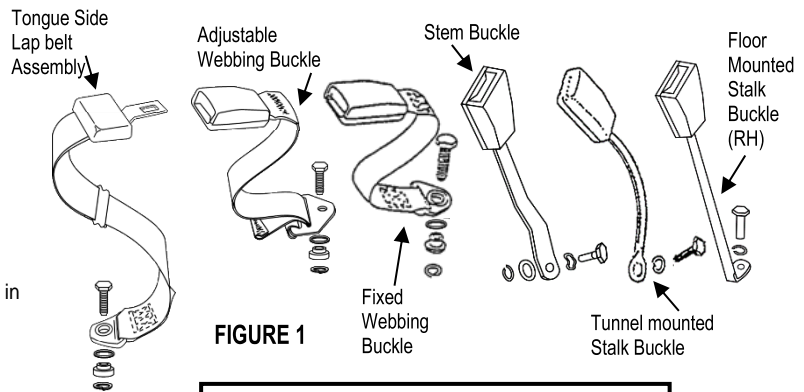

FIGURE 1
1. Your lap belt assembly is as shown in figure 1.
2. Fit tongue side to vehicle structure as shown in the left side of figure 1.